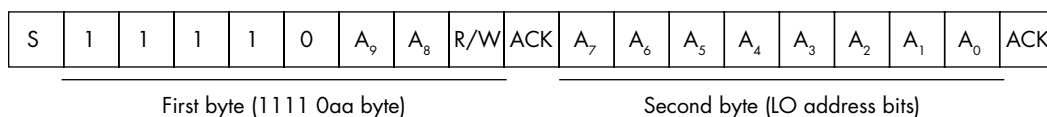

Figure 2-8: 10-bit address format
When one of the special addresses 0b1111000 (0x78), 0b1111001 (0x79), 0b1111010 (0x7A), or 0b1111011 (0x7B) appears as the first byte after a start condition, this is the start of a 2-byte address sequence. The LO two bits of this address become the most significant (HO) 2 bits of the result. A second byte follows this byte that contains the remaining (LO) 8 bits of the address. See Figure 2-8 for the details.